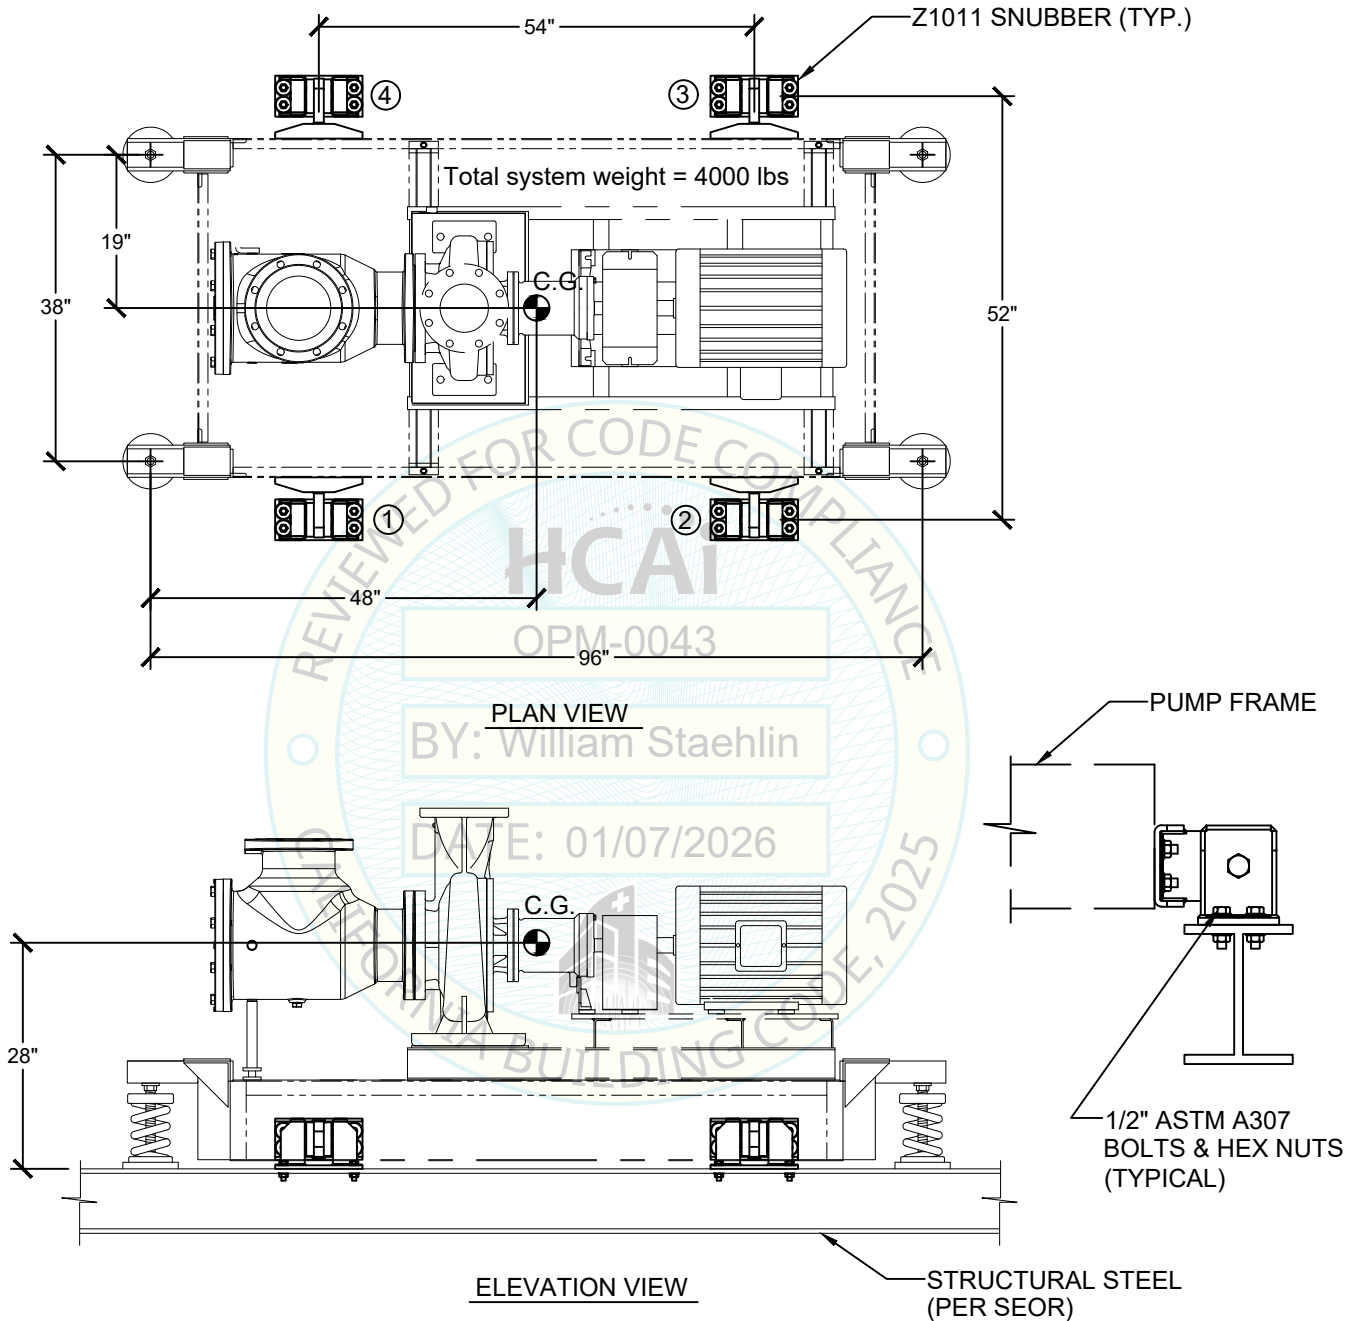

FIGURE 1 - LAYOUT OF SEISMIC SNUBBERS
The component will be installed with (4) Mason Z-1011-3 snubbers as shown in Figure 1.